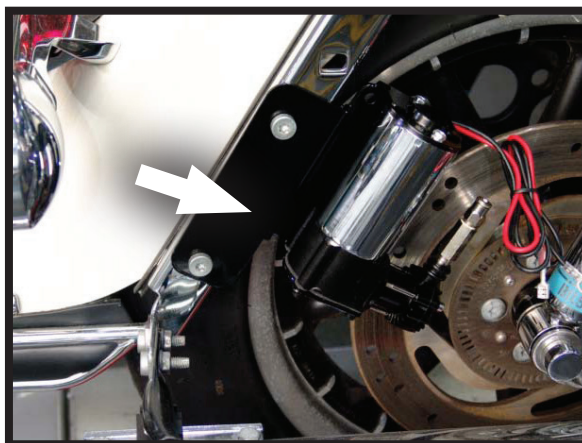

FIGURE 5
4. REUSING THE FACTORY BOLTS PREVIOUSLY REMOVED, FASTEN THE COMPRESSOR TO THE BRACKET, AS SHOWN (FIGURE 5)